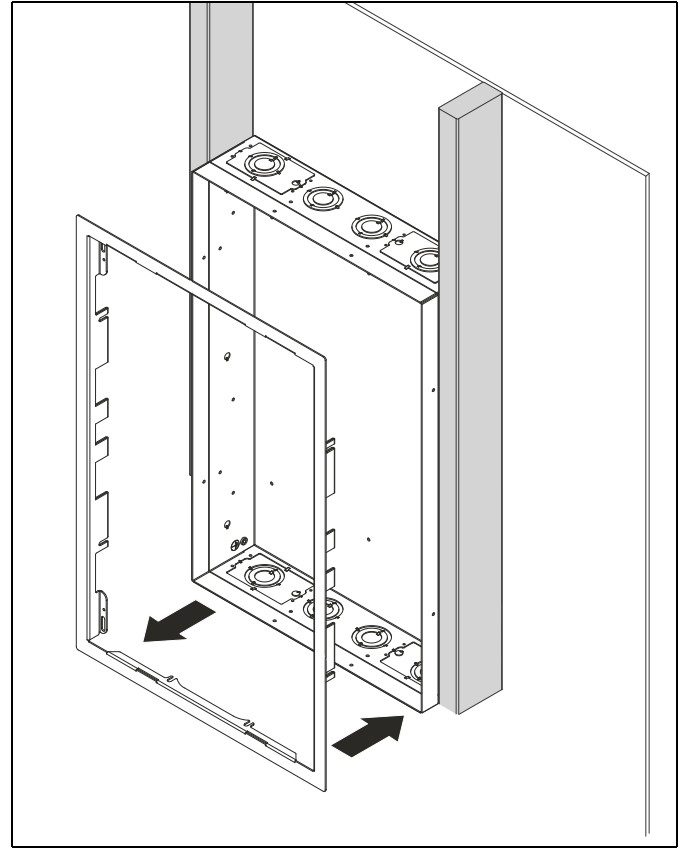

Figure 9
**NOTE:** If installing in a stud wall BEFORE the drywall is installed, remove outer flange from PAC527L before installing the PAC527L. (See Figure 9)